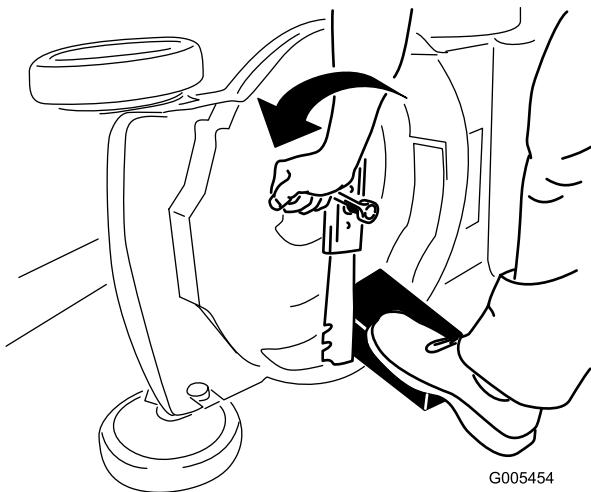

Figure 28
4. Remove the blade, saving all mounting hardware (Figure 28).
3. Use a block of wood to hold the blade steady (Figure 28).